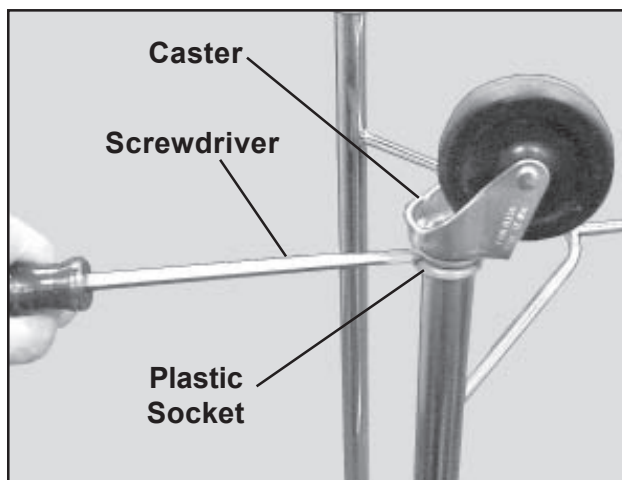

Figure 1. Removing Caster from Solution Stand Leg
3. With a flat-blade screwdriver, pry the old caster part of the way out of the plastic socket at the bottom of the stand leg (Figure 1).